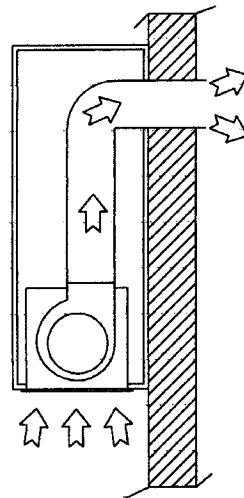

Fig.2.
- › In ducted mode (Fig.2), fumes are directly conveyed outside, through an evacuation duct connected from the extractor to the outside. Both charcoal filter and air deflector are not necessary in this case.